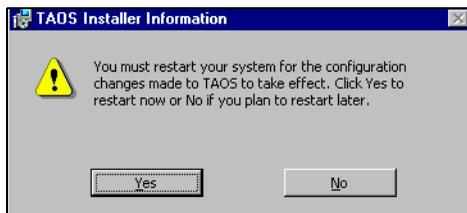

Figure 7-13 *Click Yes.*
14. Click **Yes** to reboot the system (Figure 7-13).